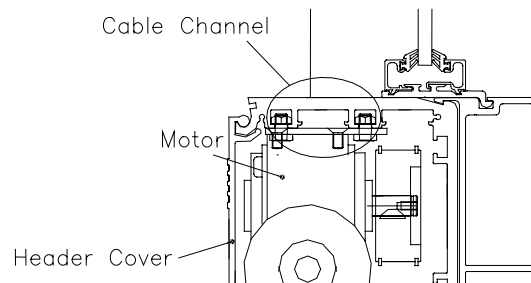
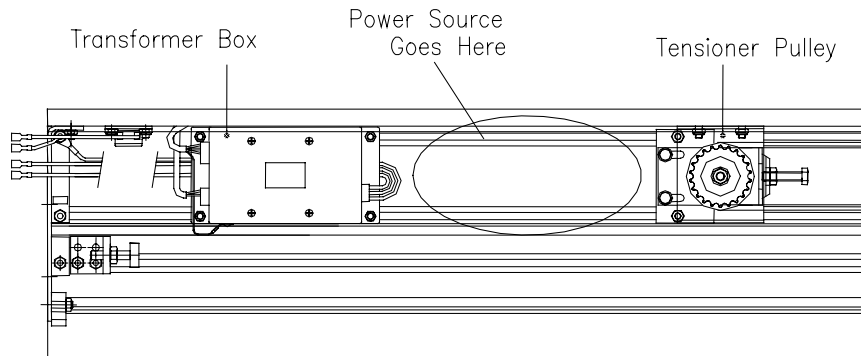
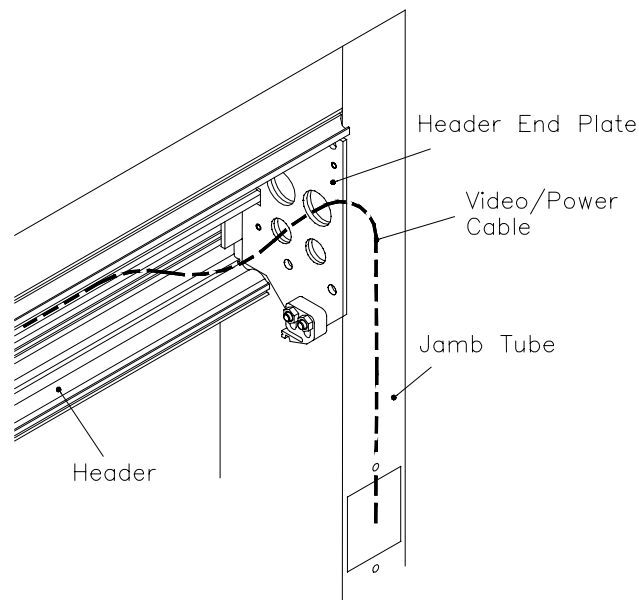
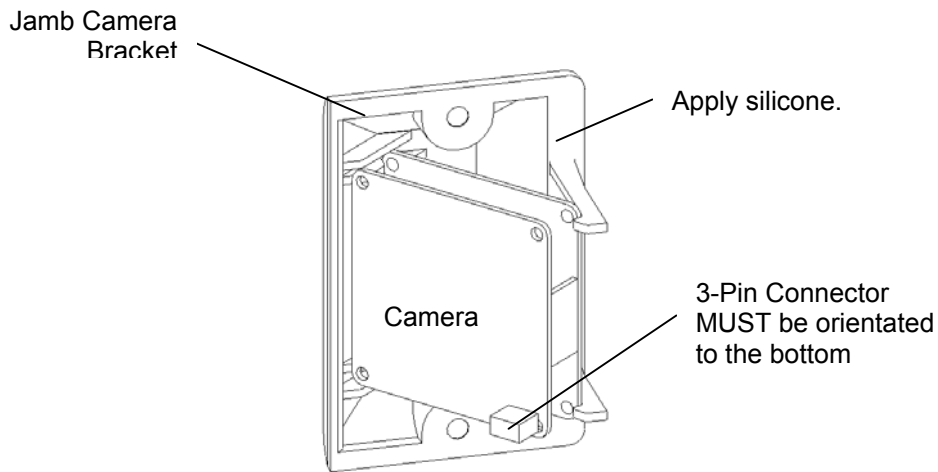

FIG. 5
FIG. 6
FIG. 7
FIG. 8
9. That completes the installation of the Header Camera Assembly. The next step is to run the thin, red and black cables from the previously attached clips on the back side of the header cover, through the cable channel in the header extrusion (as shown in FIG. 5) and across the header into the area between the transformer and the tensioner pulley. FIG 6
10. Leave the thin red and black cables hanging in between the transformer box and the tensioner pulley. FIG. 6 That's where the power source is to be located. (Described later)
2. Center-punch and drill (2) 7/64" pilot holes. Using a jigsaw with a 2-3/4" long blade, cut along the rectangular cutout as marked on the template. Keep in mind there may be a pocket in the jamb tube that may cause you to inadvertently bend or break the blade. Be careful of any wires or cables that may exist from key switches inside the jamb tube. Remove and discard template after successful cut.
3. Take the other camera and position it with the connector down onto the jamb camera bracket. FIG. 8. Center the lens onto the "peep" hole and snap them together. Remove the other video/power cable from its packaging and feed the 3-pin connector end through the cable channel on the header then into the jamb tube passing through the holes on the header end brackets (FIG. 7), leaving the end with the BNC connector hanging by the power source location FIG. 6. Once the cable reaches the cutout in the jamb tube, connect it to the 3-pin connector on the camera circuit board. FIG. 8
4. Apply clear silicone caulk around all the edges for weatherproofing (FIG. 8), and then screw the assembly into the new cutout and holes using the 2 thread-forming jamb camera screws supplied with the kit.
1. Remove the Power Source Kit from its packaging, then remove the adhesive backing from the 1/2" thick tape located on the backside of the black power source box. Center the power source box between the tensioner and transformer and press firmly against the surface to ensure that the tape sticks. FIG. 6